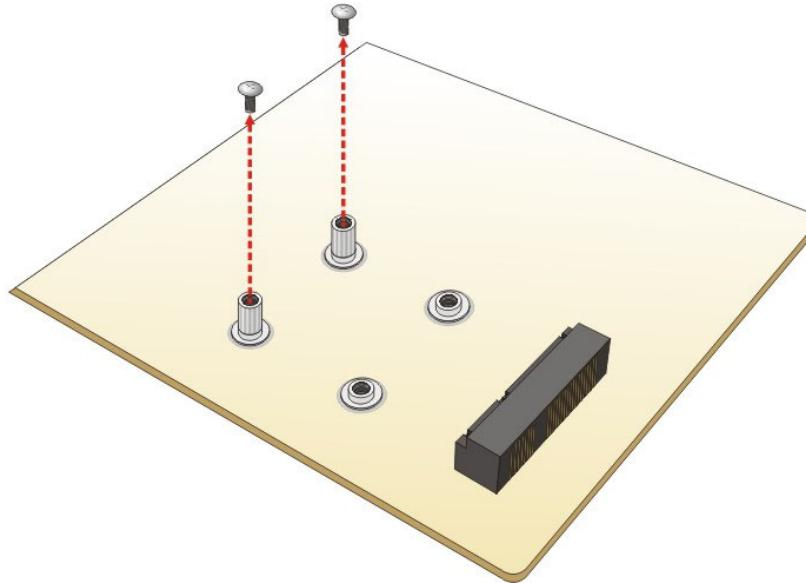

Figure 4-2: Removing the Retention Screws
Step 2: Remove the retention screws. Remove the two retention screws as shown in **Figure 4-2.**